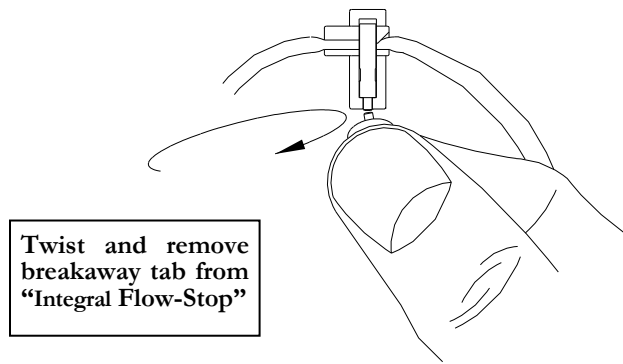

Figure 1.5 Curlin Infusion Administration set "Integral Flow-Stop" with breakaway tab
- 1 To gravity prime the administration set, twist and remove the breakaway tab from the "Integral Flow-Stop", then spike the IV bag. Squeeze the "Integral Flow-Stop" between your thumb and forefinger to allow fluid to flow through the tubing until all air is removed from the IV bag and administration set. (See figures 1.5 and 1.6.) Release the "Integral Flow-Stop" to automatically clamp the tubing. **To correctly prime a filtered set, hold the filter in a vertical position with the flow downwards allowing the filter to completely fill with fluid.**